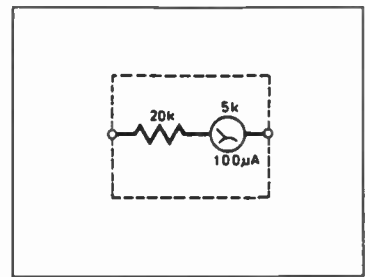

Fig. 4.9. Simple voltmeter circuit.
2. The voltmeter shown in Fig. 4.9 is required to measure a f.s.d. of $10V$. Can it be used as it stands, or will it need a shunt or multiplier; state which? What value of shunt or multiplier (if any) might be needed?